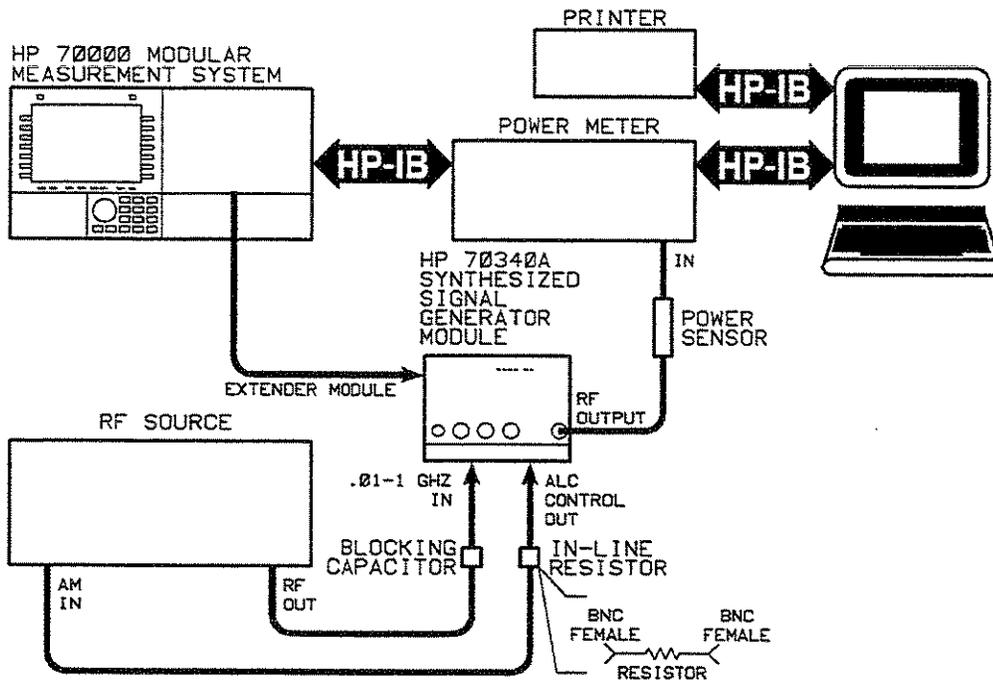

Figure 3-9. Low Band Vernier Calibration Equipment Setup
2. Set up the equipment as shown in Figure 3-9.